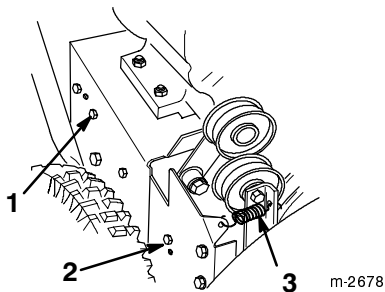

Figure 16
3. Loosen the auger brake arm assembly by loosening the rear screw and removing the front screw (Fig. 16).
4. Remove the idler pulley spring (Fig. 16). Let the brake arm assembly hang free but out of the way.
3. Loosen the auger brake arm assembly by loosening the rear screw and removing the front screw that fasten the auger brake arm assembly to the frame (Fig. 16).
4. Remove the idler pulley spring (Fig. 16). Let the brake arm assembly to hang free but out of the way.